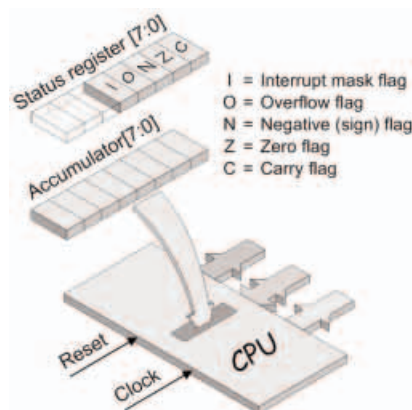

Fig.4. The accumulator (ACC) and status register (SR)
There are just a couple more things we need to know before we plunge headfirst into the fray. As illustrated in Fig.4, amongst other things, our CPU contains two 8-bit registers called the *accumulator* (ACC) and the *status register* (SR). (In this context, the term "register" refers to a group of memory elements, each of which can store a single binary digit.)